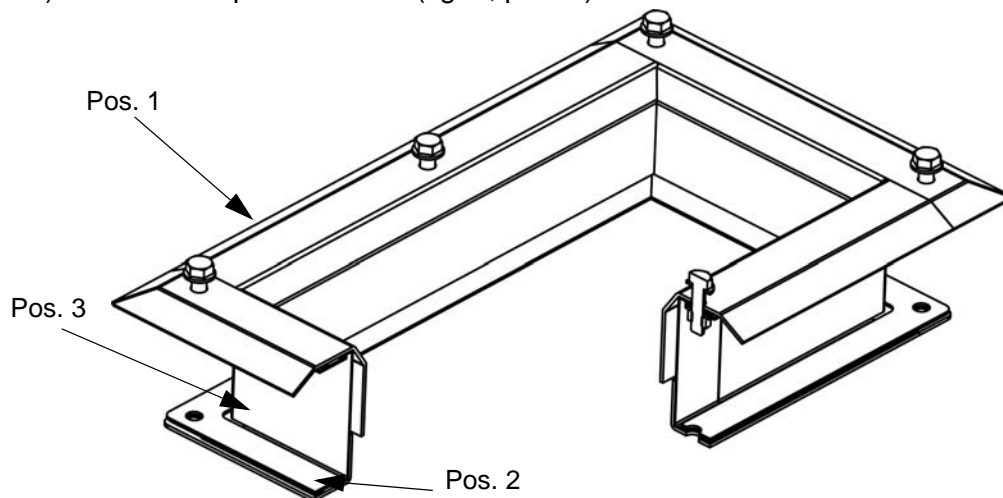

Fig. 1: Set-up of the new decoupler
The new decoupling consists of the feed hopper (fig. 1, pos. 1), the lower part of the decoupler (fig. 1, pos. 2) and the dust protection foil (fig. 1, pos. 3).